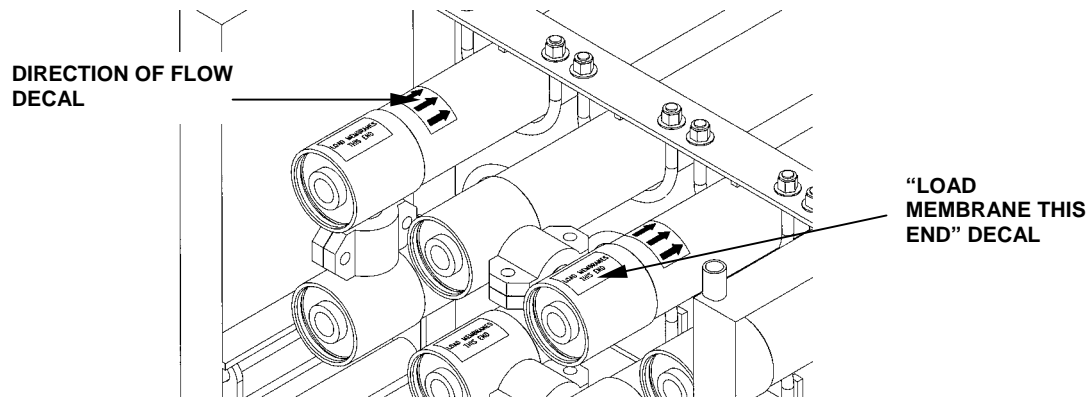

Figure 7. Pressure Vessel Flow and Load Decals.
3. Install RO membrane (6) in the direction of flow. Observe arrows on both ends of the pressure vessel.
4. Insert the RO membrane (6) into the pressure vessel (1) from the end marked "Load membrane this end". See Figure 7.